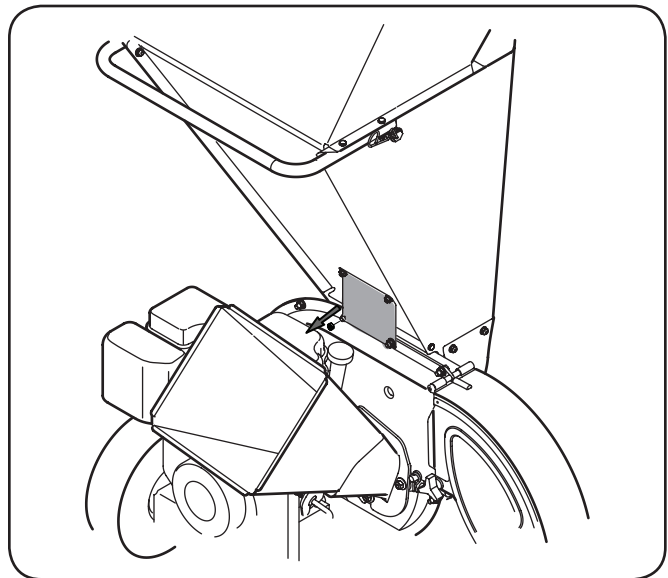

Figure 7-2
2. Remove the two flange nuts (and hex bolts) which secure the hopper support bracket to the impeller housing. Retain the hardware. See Fig. 7-2.